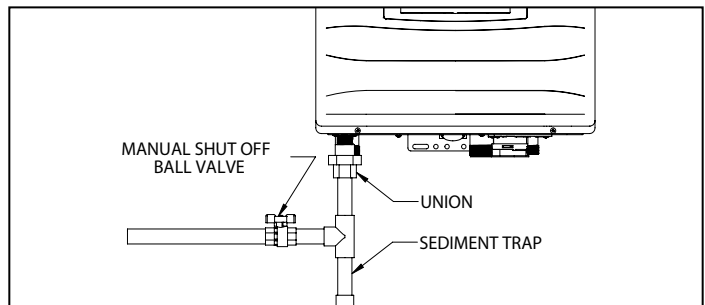

Figure 40 - Gas Line with Shut-Off and Sediment Trap Detail
- The National Fuel Gas Code (NFPA 54) requires that a sediment trap (drip leg) be installed in the gas line on appliances not so equipped. The drip leg must be accessible, a minimum of 3" in length, and not subject to freezing conditions. See Figure 40.
- A manual gas shut-off valve should be installed in the gas supply line close to the water heater. See Figure 40 for detail.